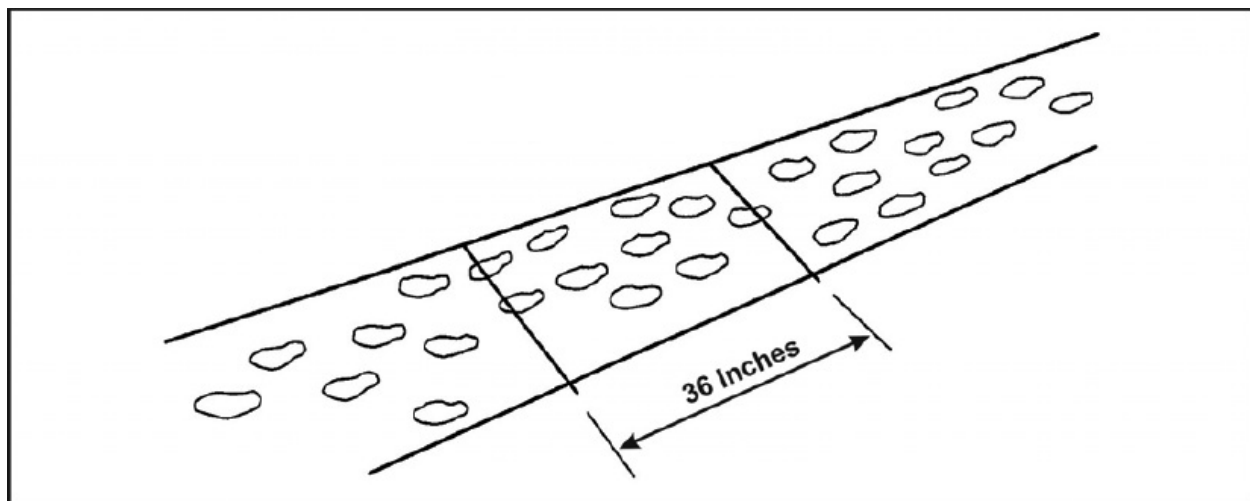

Figure 4-14. Using the 36-inch box method
- Also use the 36-inch box method if key prints are not evident (Figure 4-14). To use this method, the tracker uses the edges of the road or trail as the sides of the box. He measures a cross section of the area 36 inches long, counting each indentation in the box and dividing by two. This method gives a close estimate of the number of individuals who made the prints; however, this system is not as accurate as the stride measurement.